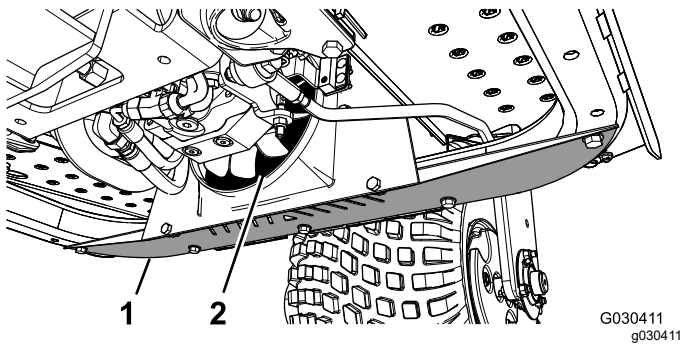

Figure 50
1. Remove the lower shield (Figure 50).
2. Using a wand, blow compressed air in between the fan blades (Figure 50) to force material out from the direction that it entered.